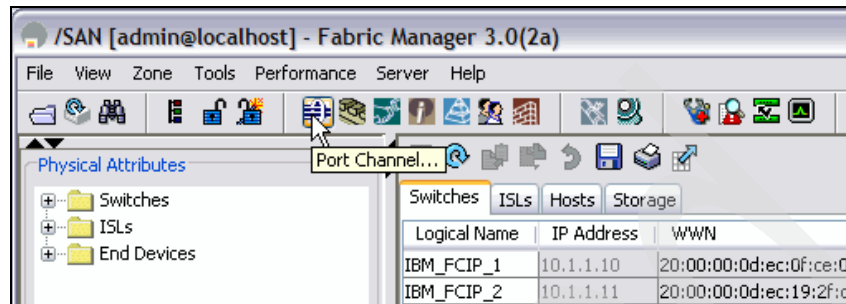

Figure 12-23 FM Port Channel wizard
6. The next step is to bundle the two FCIP links into a PortChannel for high availability and bandwidth reasons using the PortChannel wizard, shown in Figure 12-23.